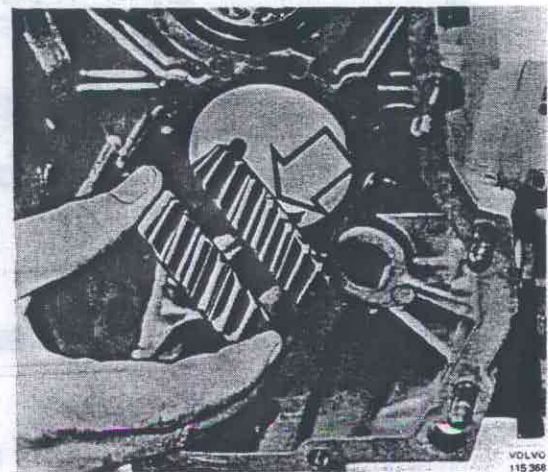

Fig. 43-105. Placing reverse gear
6. Fit the reverse drive in the gearbox. Note that the gear with the bevelled teeth must face the rear end of the gearbox, see Fig. 43-105.